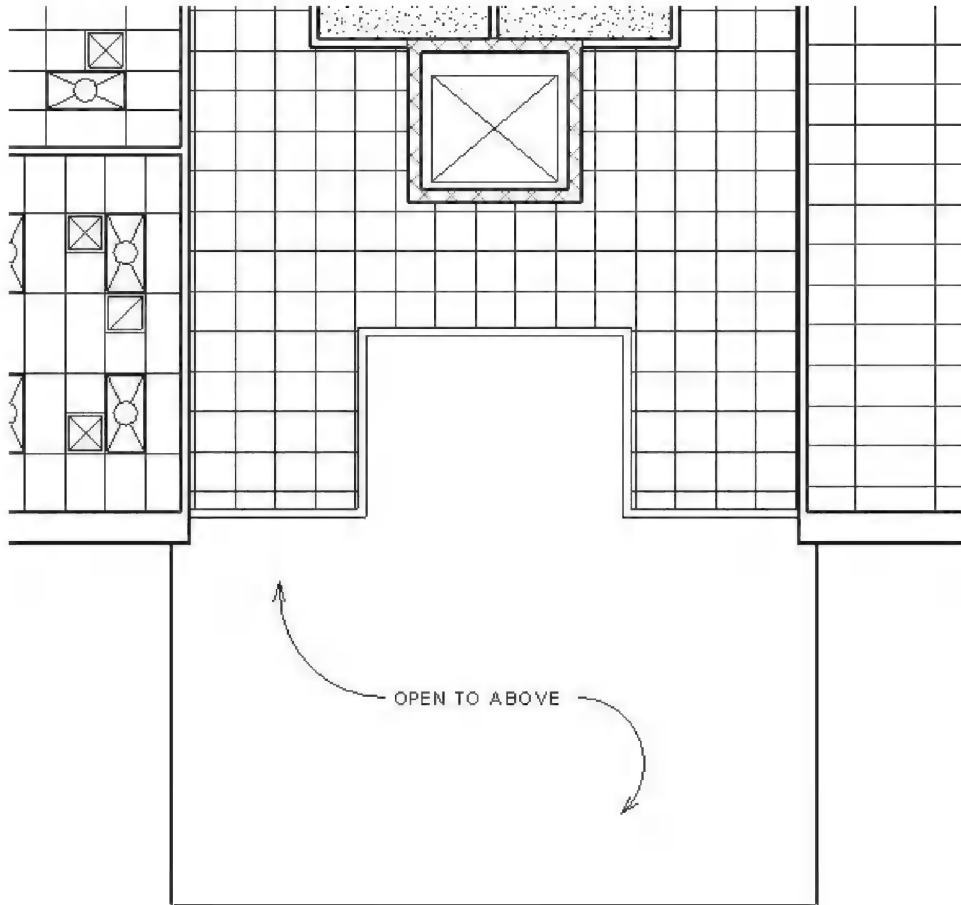

FIGURE 7-4.2 Text with leaders
4. Add one of the leaders (i.e., arrows) shown in Figure 7-4.2.
5. Add the note “**OPEN TO ABOVE**” shown in **Figure 7-4.2**.